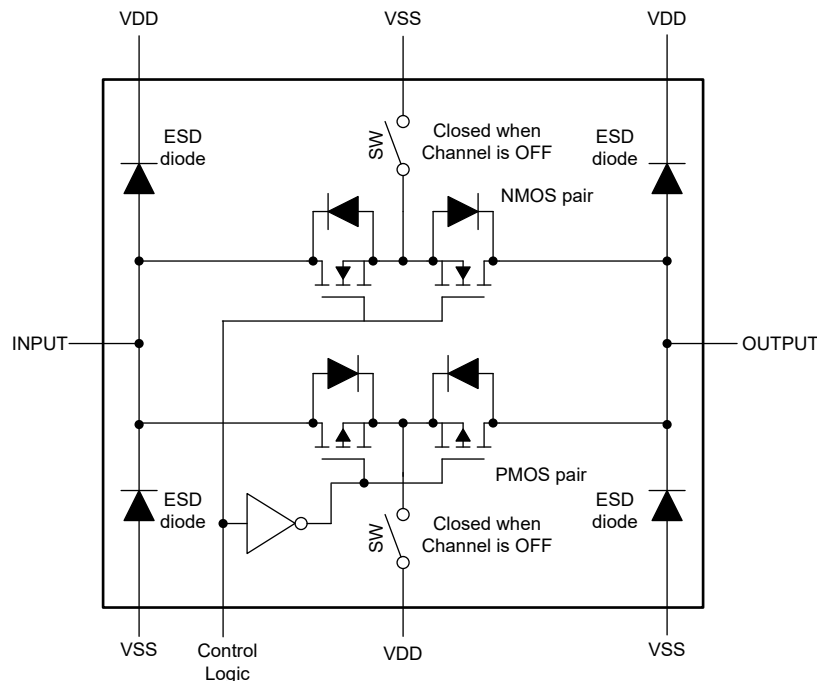

Figure 2-3. Channel Structure of CD4053B
Figure 2-3 shows the typical channel structure such as CD4053B. NMOS path are in parallel with PMOS path as in a transmission gate switch to achieve a flatter ON-state resistance. Two back-to-back NMOS transistors are utilized to compose the NMOS path, and another switch SW is connected between the mid-point of transistor pairs and VSS. When the channel is ON, transistors are ON, SW is OFF, and voltage signal is conveyed from input to output. When the channel is OFF, transistors are OFF, SW is ON, and the voltage of mid-point is pulled down to VSS.
The PMOS path in Figure 2-3 works similarly to the NMOS path. Additionally, ESD diodes are placed at the IO pins to clamp the output voltage range to stay in between VDD and VSS in the case of an overvoltage event.
As mentioned above, when the channel is OFF, SW is ON and sinks the leakage current to VSS. Since the ON-state resistance of SW is much smaller than the OFF-state resistance of NMOS transistor, most of the leakage current from input side flows to VSS instead of output. Similarly, for the PMOS path, the leakage current loop forms between input and VDD, rather than between input and output. In other words, the channel structure in Figure 2-3 almost blocks input-to-output leakage paths (5)(6)(7)(8).